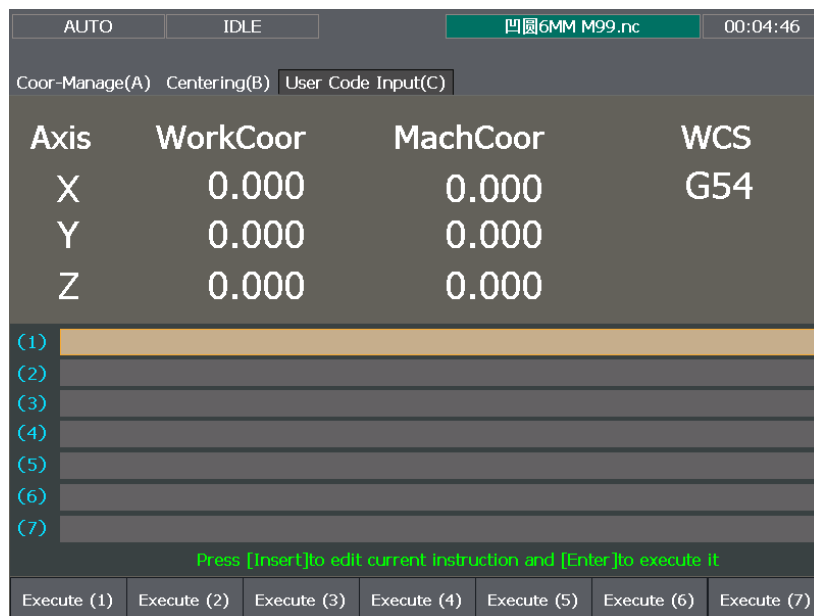

Fig. 3-68 User code input screen
[User Code Input (C)] screen under [Program] function section is as shown in Fig. 3-68.